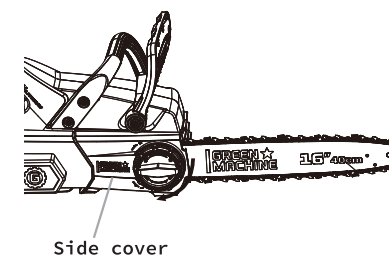

Fig. 14B
5. Place and secure the side cover over the gear (Fig. 14B).
6. Rotate the bar adjusting locking knob clockwise until it stops (Fig.14B).